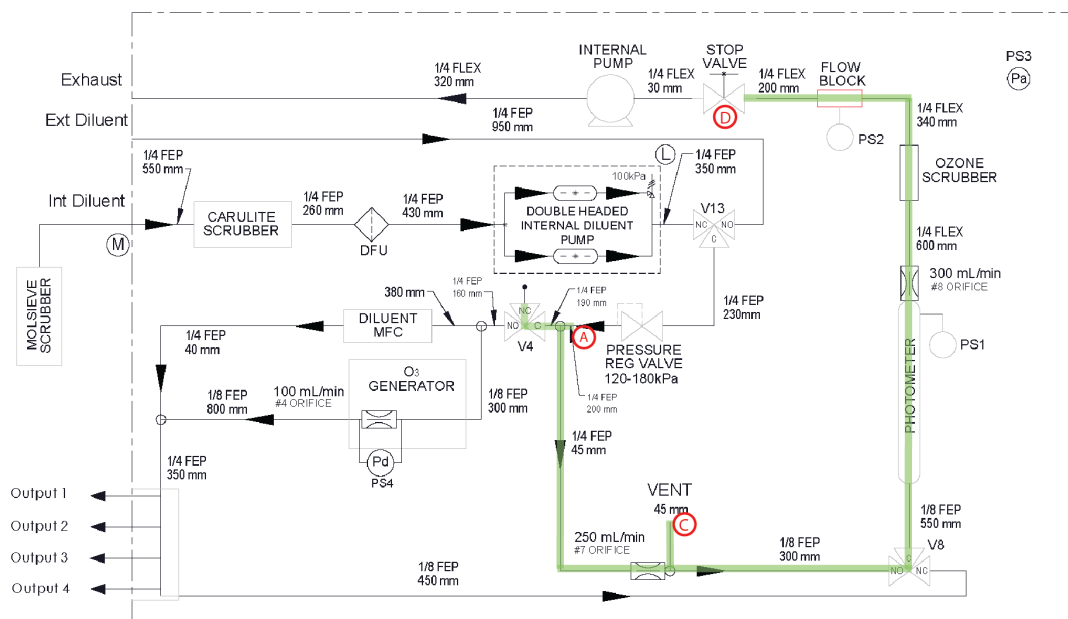

Figure 80 – Leak Check: 3 (Photometer + Ref. Air)
5. Wait 3 min with the internal pump running then turn the stop valve (90 degrees) marked as “D” on Figure 80.